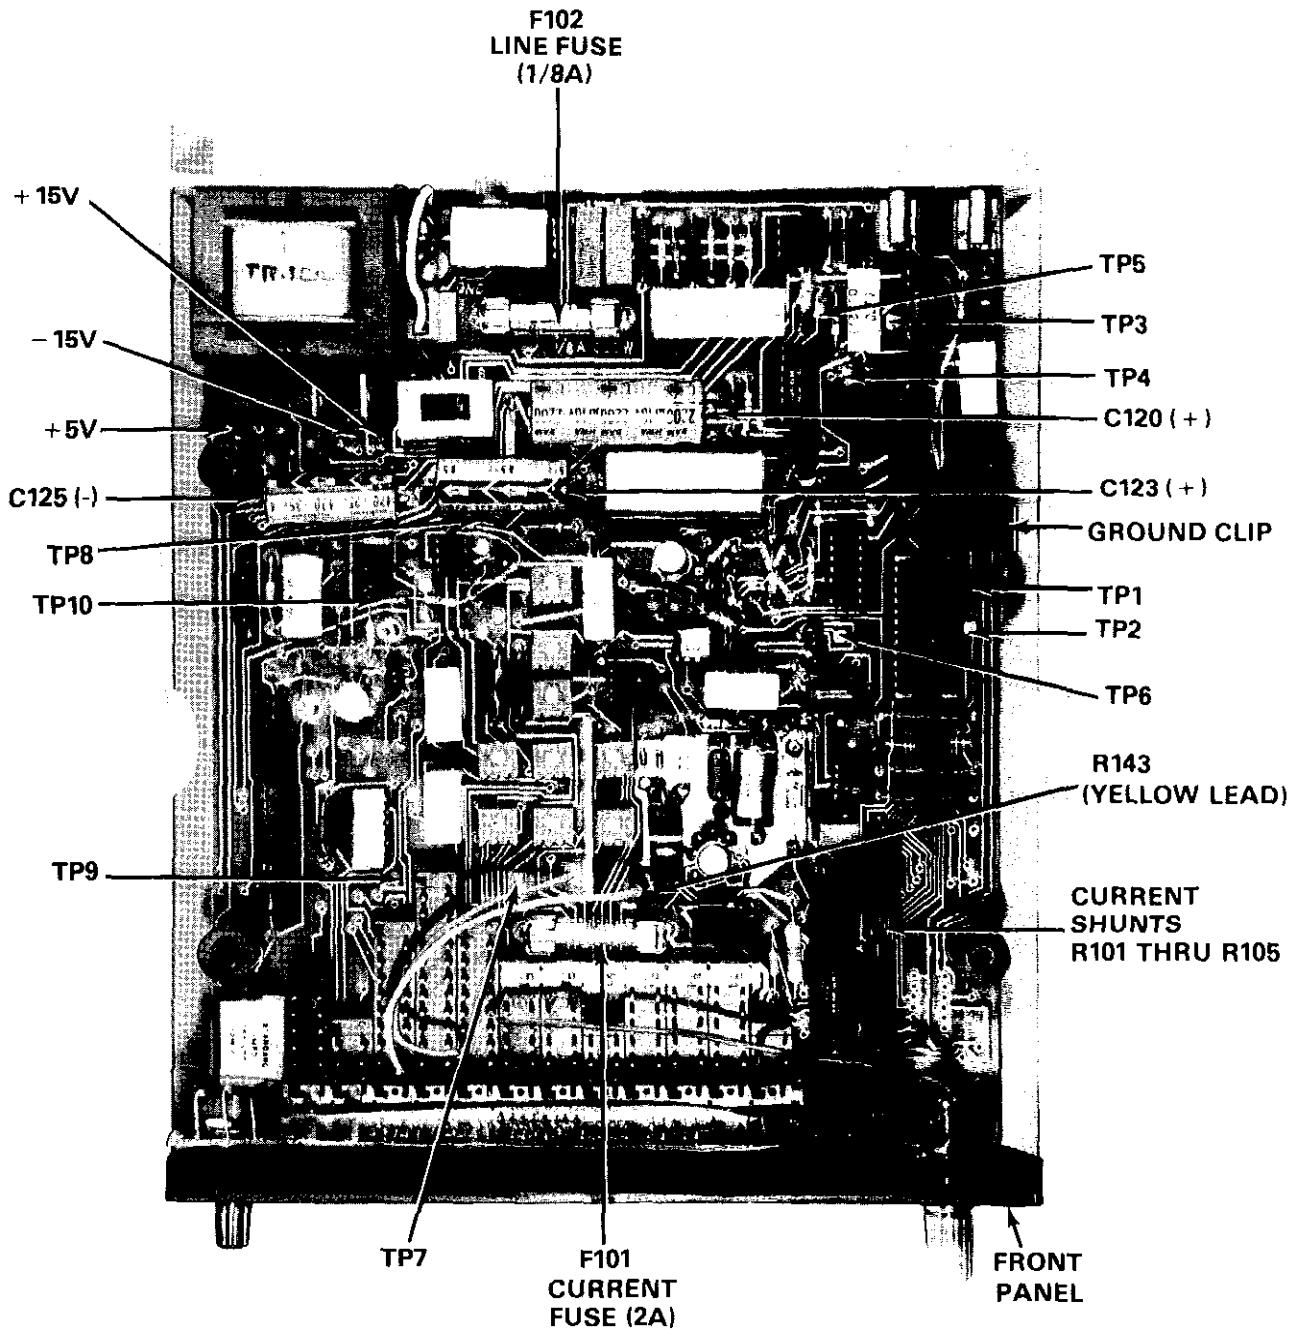

Figure 5-1. Test Point Locations
- B. Remove F102, shown in Figure 5-1, and replace it with a 1/8A, 250V, 3AG, SLO-BLO fuse (Keithley part number FU-20) for standard line voltage units. Optional line voltage units with 90-110V and 190-210V ranges, use a 3/16A, 250V 3AG SLO-BLO fuse (Keithley part number FU-29).
- B. Remove F101, shown in Figure 5-1, and replace it with a 2A, 250V, 3AG fuse (Keithley part number FU-13).
- C. Install calibration shield or battery pack on the spacers. Be sure that the ground clip, shown in Figure 5-1, is positioned on the top side of the shield or battery pack.
*On main printed circuit board (see Figure 5-1).